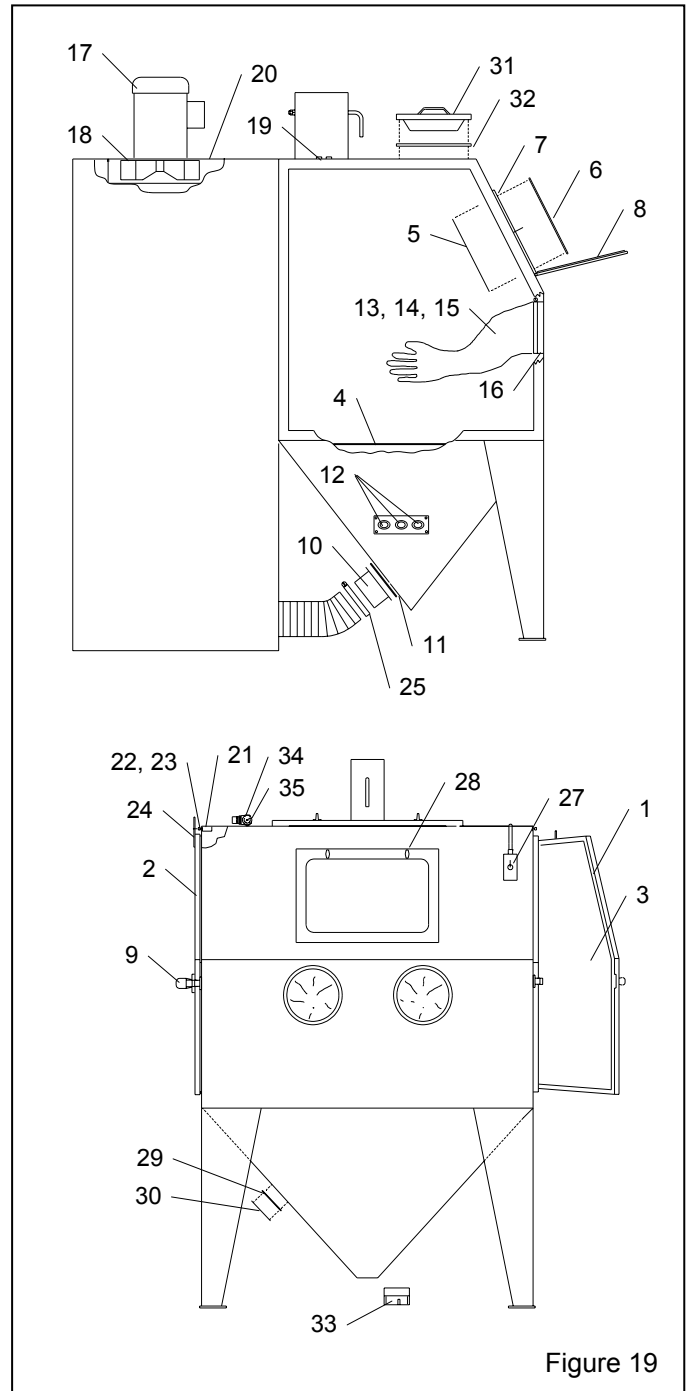

Figure 19
9.5 Cabinet Assembly, Figure 19